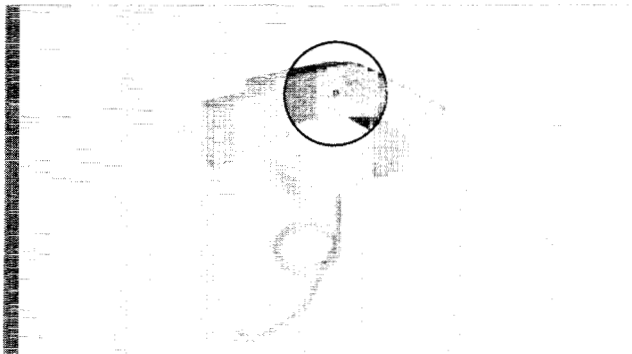

Figure 5.41g
- a. Note that on the inside of the trigger release there is a small hole. This hole accepts the short end of the spring (fig. 5.41g).